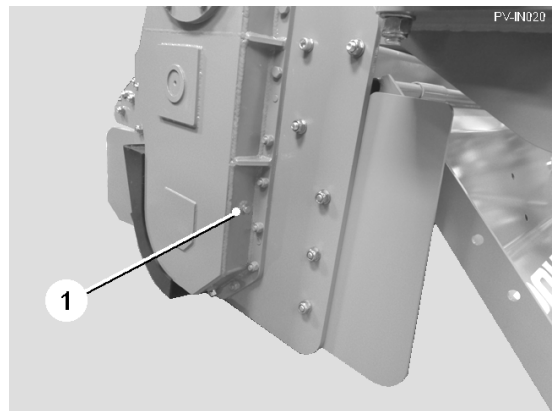

Fig. 16
The side drive case oil levels are checked by removing the level plugs (item 1, fig. 16). Oil level should be to the bottom of the hole with the machine level.